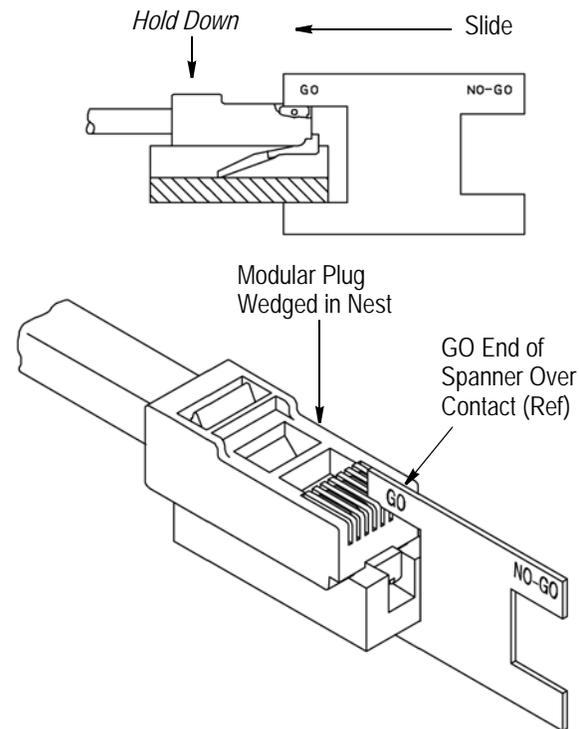

Figure 2
1. Push down firmly on the crimped modular plug, and slide the locking latch of the modular plug into the nest, wedging the modular plug in so that it is held tightly. Refer to Figure 2.
2. While holding the modular plug in the nest, slide the GO end of the spanner over each contact as shown in Figure 2. Repeat this step with the NO-GO end of the spanner.